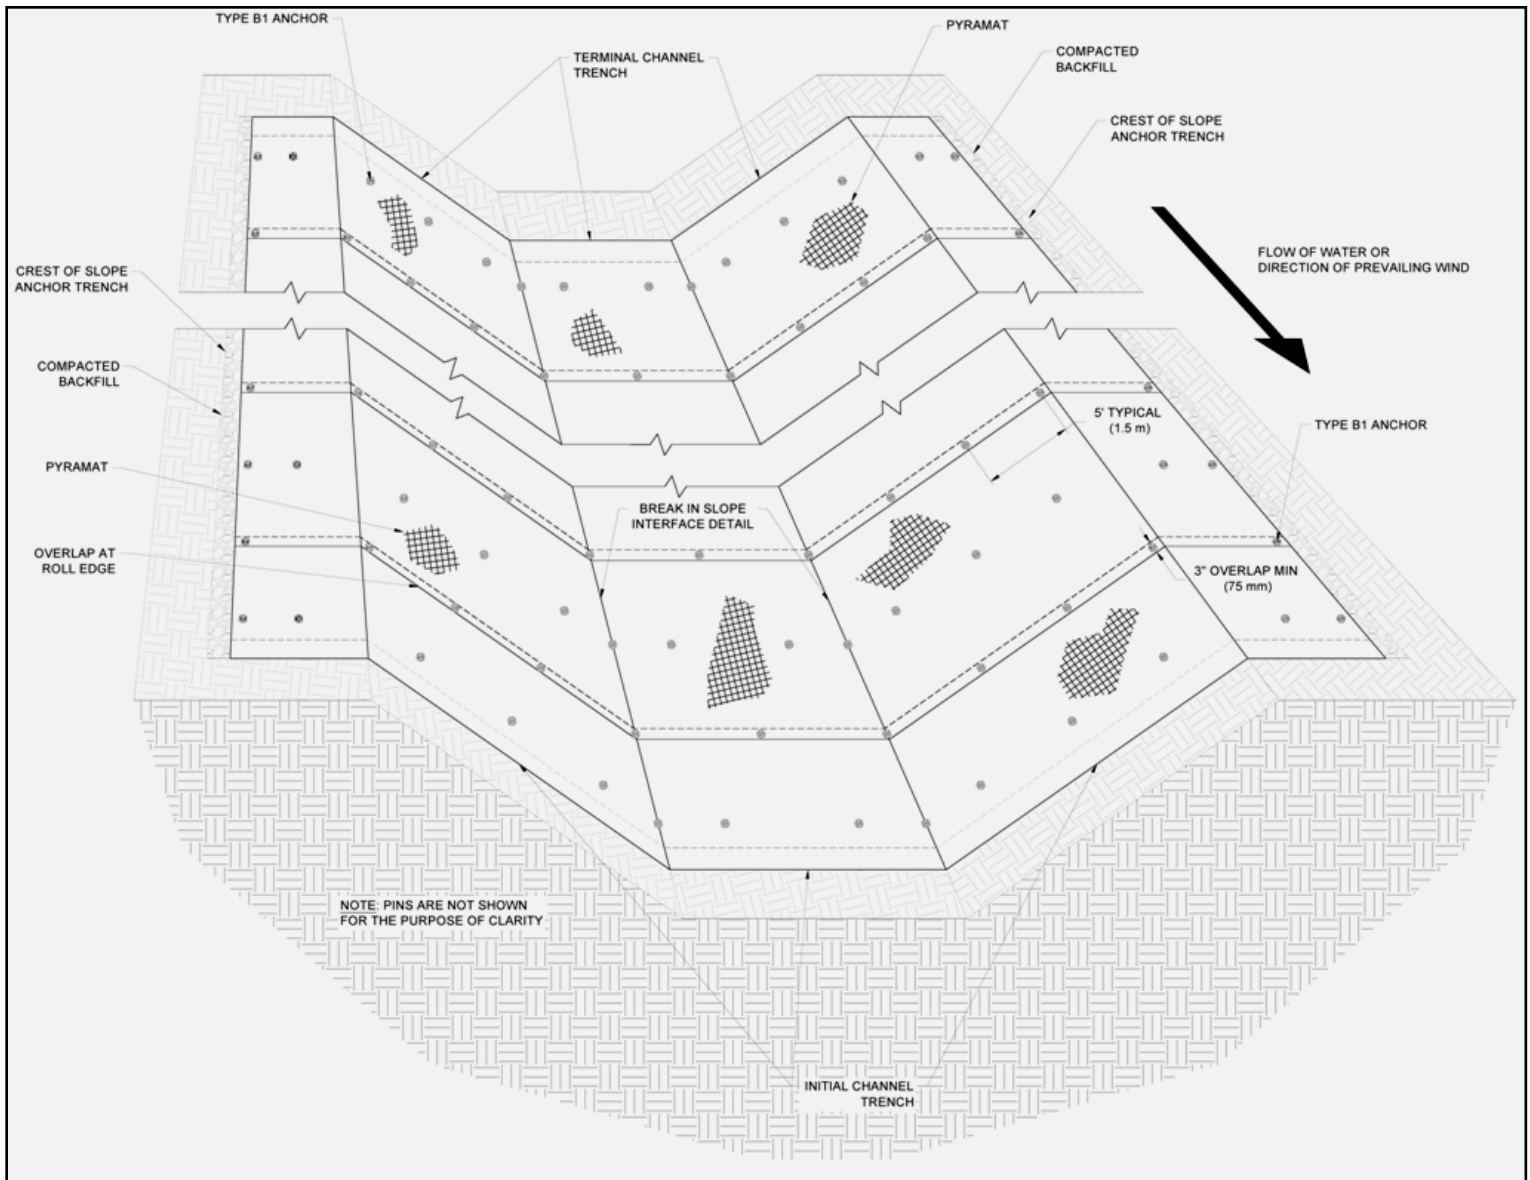

Figure 29: Completed Channel Isometric View
1. Starting with the downstream end of the site select one of the COS trenches to begin the Pyramat Laydown process. To ensure proper anchoring of the overlapped areas the proceeding roll width must be laid out before the current roll width can be anchored with exception to the final roll width at the TC trench. For straight sections of a channel, Pyramat panel lengths should be long enough to construct both COS trenches while also covering the surface of the channel being armored. (Figure 29) Panel edges should rest perpendicular to the channel center line. For best results, panels of Pyramat should be continuous and free from seams or roll end overlaps that are parallel to the centerline of the channel. Panel edge overlapping should follow a pattern of placing each proceeding panel's edge overtop the previous panel edge, shingling the panels in the direction of the water flow.
13. Continue to work down the length of the channel by repeating steps 6 through 9 overlapping each adjacent Pyramat panel by 3 inches (75 mm) (Figure 29). The last Pyramat panel should terminate on the Terminal Channel (TC) trench with pins on 12 in (300 mm) centers in between PDEAs on 5 ft (1.5 m) centers.
18. At a minimum, Pyramat panels should be pinned entirely across the channel surface, pins and PDEAs should be installed in the trenches, and the trenches should be backfilled and compacted at the end of each day to minimize rework in the case of a major rain event. Specific project conditions may warrant further evaluation of installation order for ease. An example isometric view (Figure 29) of a channel armored with ArmorMax can be seen below for overall reference. Consult Propex Engineering Services at (423) 553-2450 with any questions that you may have.